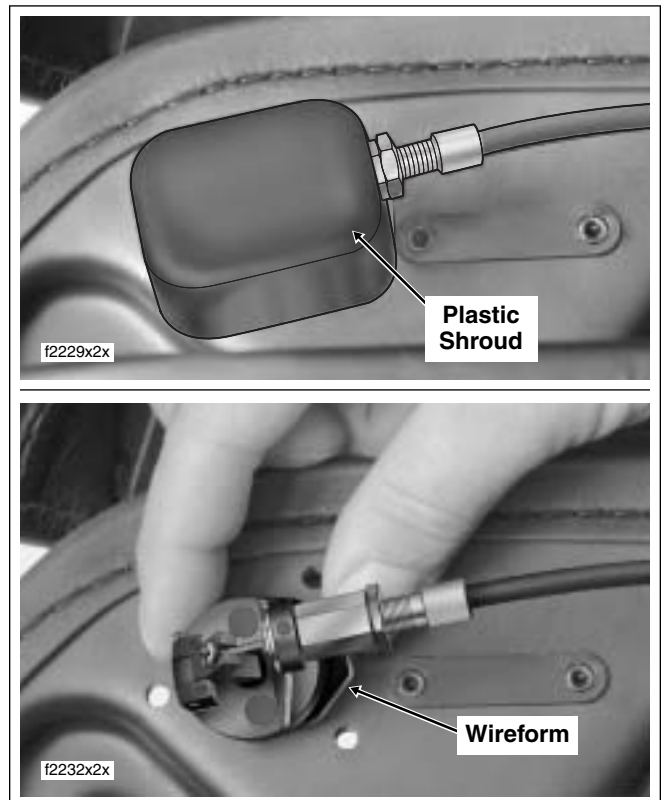

Figure 2-140. Remove Button Assembly
2. Remove two screws on inboard side of saddlebag to release plastic shroud. See upper frame of Figure 2-140.
3. Depress wireform and pull button from hole in saddlebag. See lower frame of Figure 2-140.
2. On the inboard side, depress wireform and slide button into sleeve. Release wireform. Gently tug on assembly to verify that wireform has engaged groove in sleeve to lock button in place. See lower frame of Figure 2-140.
3. Holding plastic shroud with the relief positioned over the cable adjuster, install two screws from inboard side of saddlebag. See upper frame of Figure 2-140.
6. Holding plastic shroud with the relief positioned over the cable adjuster, install two screws from inboard side of saddlebag. See upper frame of Figure 2-140.